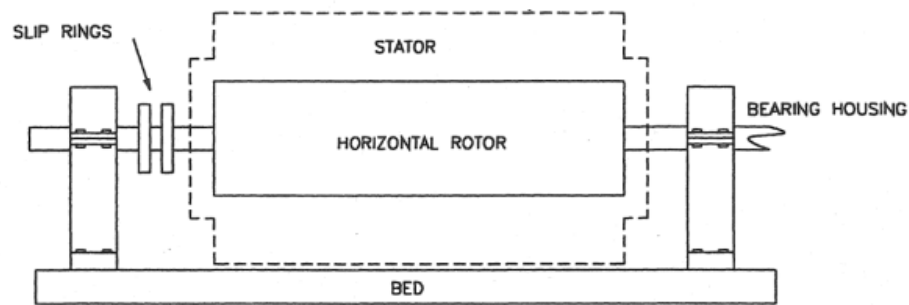

Figure 6 - High speed alternator - mechanical arrangement
15. **High Speed Alternators.** High speed alternators (1500 or 3000 r/min for 50 Hz) have a revolving field which is much smaller in diameter, but much longer - this reduces the effects of centrifugal force on the periphery of the rotor. Most supply authority power generating stations use high speed steam turbines or gas turbines to drive high speed alternators which have a typical output of around 200 megawatts at a voltage of around 22 000 volts. An outline of the mechanical arrangement of a high speed alternator is shown in Figure 6.